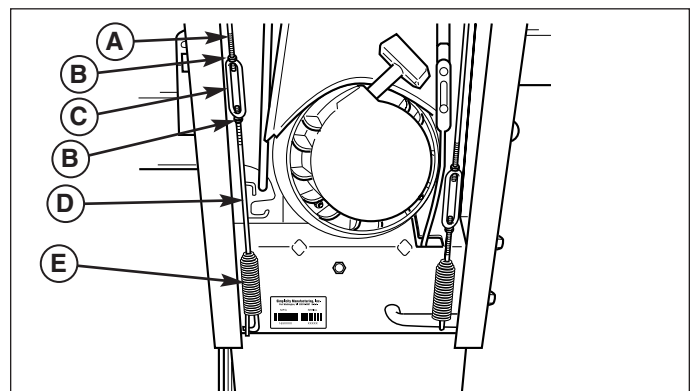

Figure 14. Drive Tension Adjustment
1. With the drive lever engaged, bottom end of lower rod (D, Figure 14) should be flush with bottom of spring (E).
2. To adjust, loosen the two nuts, (B) and hold the lower rod to keep from rotating. Turn the turnbuckle (C) toward the right to lower rod or toward the left to raise rod.